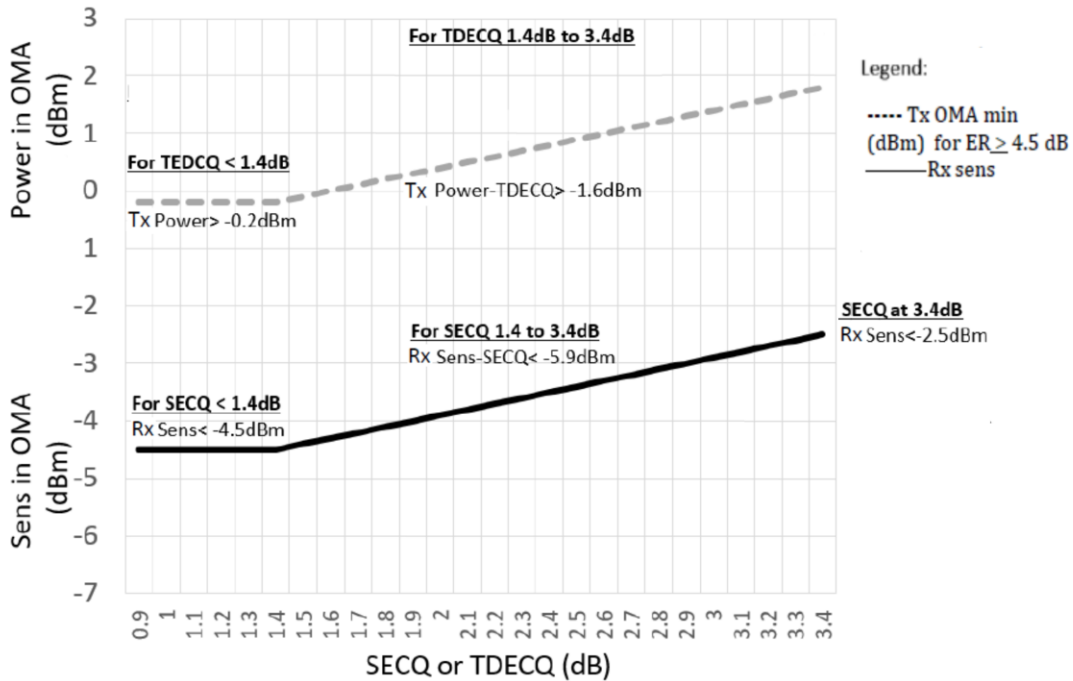

Figure 4. Illustration of Receiver Sensitivity Mask for 100G-FR
6. Receiver sensitivity (OMA_{outer}) (max) is informative and is defined for a transmitter with a value of SECQ up to 3.4 dB. It should meet Equation (1), which is illustrated in Figure 4.